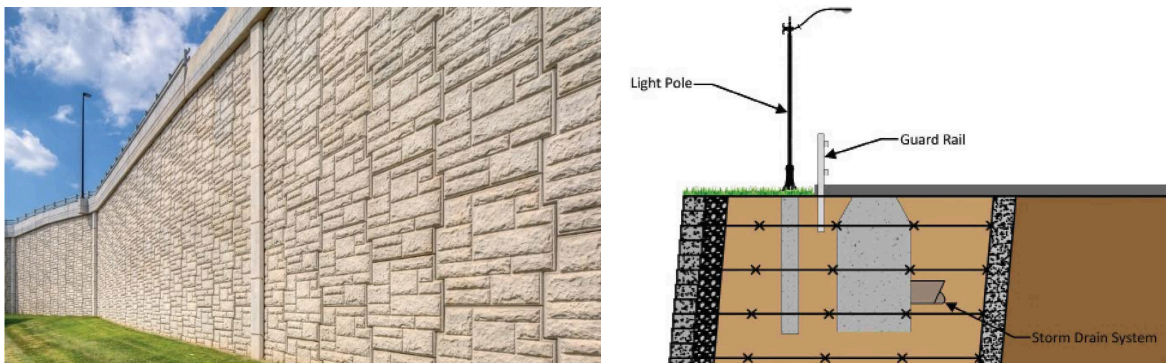

Figure 1: Examples of MSE walls
2. **Background** – MSE walls have roots to prehistoric builders who used sticks and branches to reinforce soil structures. The modern use of reinforced soils dates to the 1960s and French architect Henri Vidal's development of the Reinforced Earth® system. In the US, the first MSE wall was built on California SR-39 near Los Angeles in 1971. Sometimes the construction of MSE walls must account for underground utilities, tunnels, or other obstructions (Figure 1). Sometimes the construction must account for seismic loads and other unique geometries or soil conditions. This year's competition is a return to a more simple self-weight and vertical surcharge loading condition, but with a novel twist on the reinforcing material.